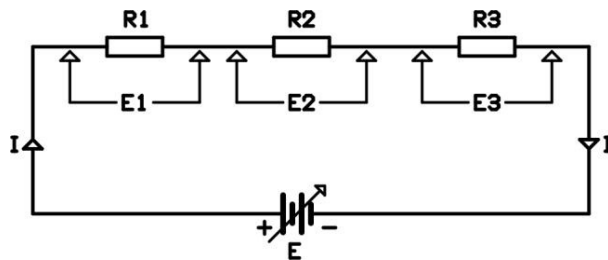

Figure 29: Basic electric circuit whose resistors are connected serially.
Kirchhoff's voltage law examines the relations between current, voltage and resistance when the resistors are serially connected as shown Figure 29.
In Figure 29, circuit load consists of three serially connected resistors. The sum of voltages per resistors is equal to the supply voltage. According to that;
Let's calculate the total resistance of serially connected resistors. As seen in Figure 29, circuit current (I) passes through all the resistors. Following equation is used in order to calculate the voltage per resistors according to Ohm's Law.
Example: : In the circuit at Figure 29, $R_1 = 2R$, $R_2 = 4R$, $R_3 = 6R$. If $E = 12V$ applied to the circuit, find following subsentence.